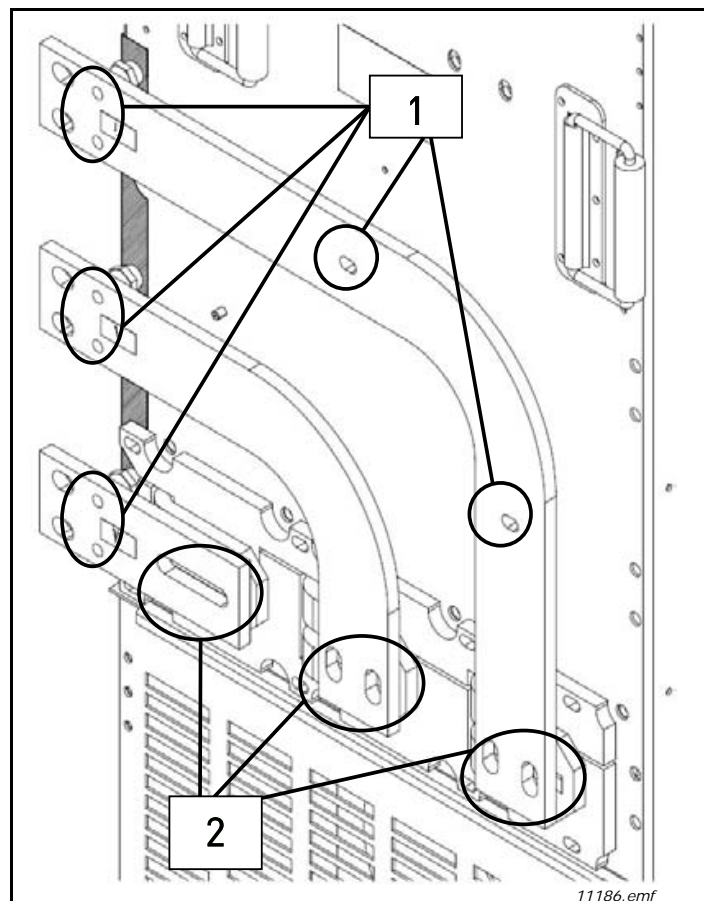

Figure 27. Left-side connection
5. Place the bus bars like in Figure 27.
6. Close fastenings numbered by 2 in Figure 27.
7. Close fastenings numbered by 1 in Figure 27.